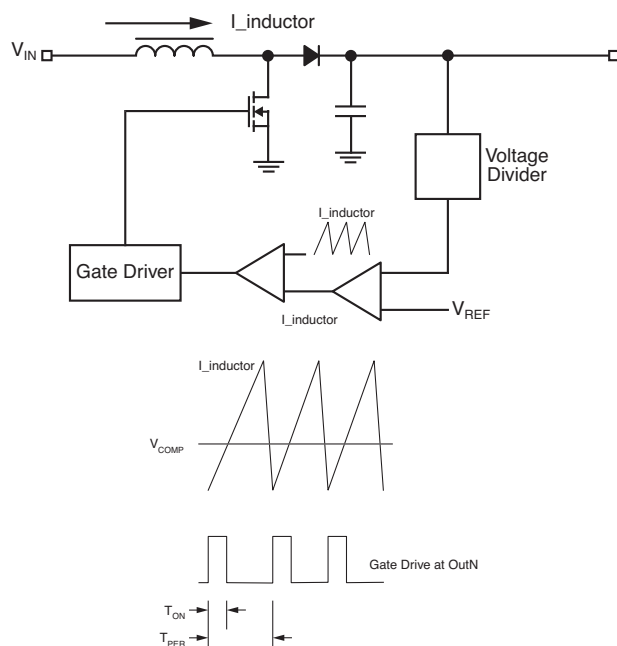

Figure 6: PWM Control Loop
The MIC2186 uses current mode control to improve output regulation and simplify compensation of the control loop. Current mode control senses both the output voltage (outer loop) and the inductor current (inner loop). It uses the inductor current and output voltage to determine the duty cycle (D) of the buck converter. Sampling the inductor current effectively removes the inductor from the control loop, which simplifies compensation. A simplified current mode control diagram is shown in Figure 6.